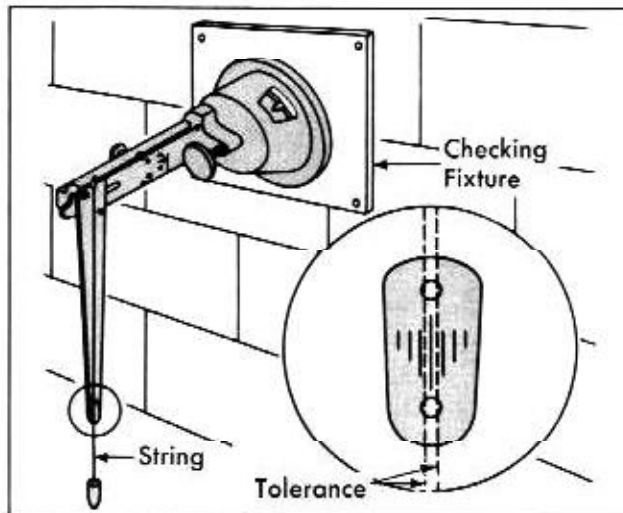

Fig. 13-90 Checking Horizontal Calibration
- The horizontal check of the aimer is made by placing the aimer on the board as in the vertical check, except that the horizontal arm is pointing toward the floor as shown in Fig. 13-90. With a small weight or plumb bob on one end of a three-foot string, connect the opposite end of the string to the slot in the aimer arm. The string should fall as shown, inset, Fig. 13-90. If it falls outside the tolerances shown, the aimer should be replaced.